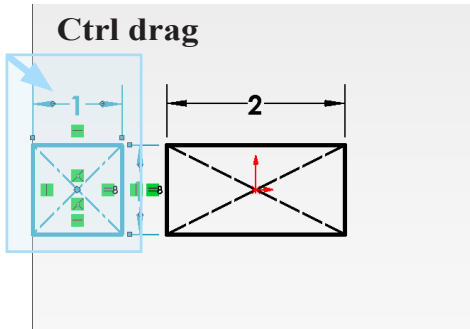

Fig. 12
Step 13. **Ctrl drag** a selection to **select left rectangle**, **Fig. 12**.